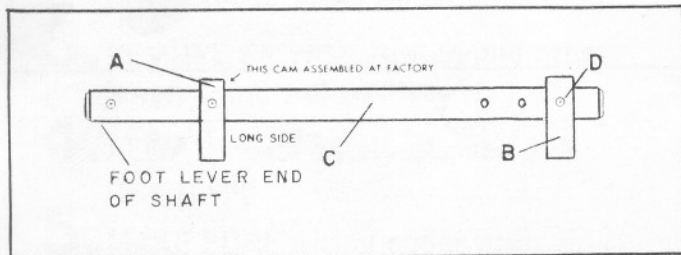

Fig. 5.
1. Before assembling caster set to stand, determine which side of the stand would be most convenient for the foot levers. The foot lever end of the shaft has a cam (A) Fig. 5, assembled in place at the factory.
3. Assemble the cams (B) on both shafts (C) at hole (D) Fig. 5. Assemble one cam on each shaft. Cams on each shaft must match when assembled, as shown in Fig. 5.